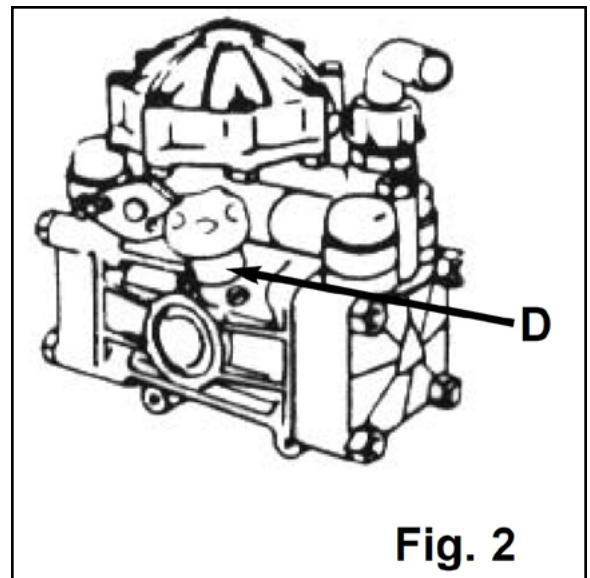

Fig. 2
3. Take the bypass tube (F) and the 5' X 1/2" hose (G) that is supplied and fasten together. Put the bypass tube in the smaller hole of the barrel. Connect opposite end of the bypass hose to the 1/2" QDC connector located directly below the flow control valve.
4. Locate the spray wand hose (H). This hose will be the longer of the three. Connect one end to the spray wand (I) and the opposite end to the 1/2" QDC connector located on the 90 degree elbow below the flow control valve on the sprayer.
**NOTE:** Your sprayer and components may differ from the one shown in Fig. 2. This will depend on what model you order.
2. Check oil level in pump daily. Be sure oil is halfway up to the clear oil sight tube (D). If it is not, fill to the correct level using a high-grade, non-detergent, SAE 30 weight oil. This will help prolong the pump life. (refer to Fig. 2)